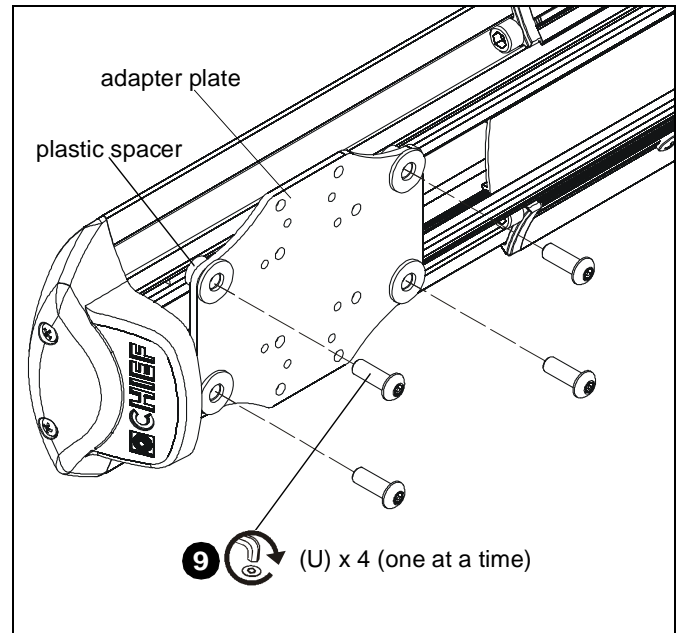

Figure 48
9. Install one 1/4-20 x 3/4" button head security screw (U) into hole vacated by removing bolt in Step 8 and into plastic spacer. (See Figure 48)